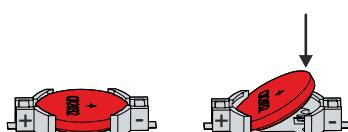

Fig. 20: C6030\_Battery change
⇒ The battery is now in an inclined position (see Fig. 20).
5. Push the protruding side of the battery into the battery holder (see Fig. 20).